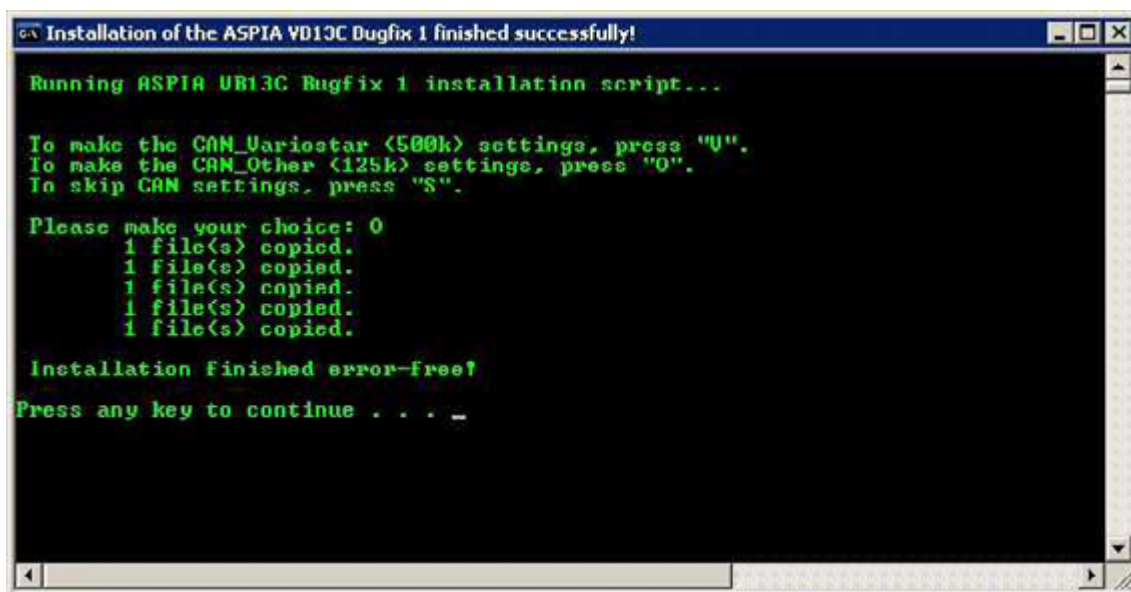

Fig. 18: Bugfix 1 finished
- ⇒ The exact output (Fig. 18 / p. 30) can vary depending on the choice made and whether the bugfix has ever been installed before.